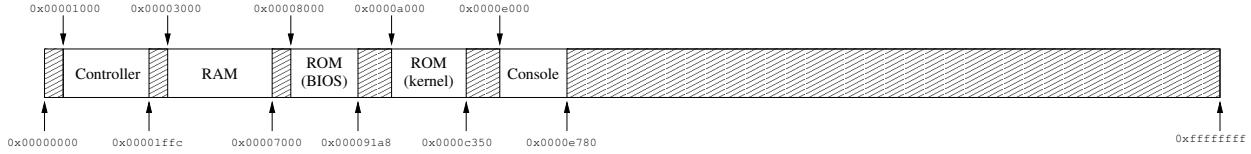

Figure 1: An example placement of devices in the physical address space.
- **Read Only Memory (ROM):** Memory units with pre-assigned contents that cannot be altered. On our simulated system, each ROM is defined by a file in the host (non-simulated) system. The size and contents of that file are taken as the size and contents of the ROM. A system may have many ROMs. By convention the first ROM is taken as the *Basic Input/Output System (BIOS)*. Consequently, the program counter (IP) in the CPU resets to the starting address of the first ROM on the assumption that it contains the first instruction for bootstrapping the system.
The device table: The bus controller provides a window into the placement of bus devices into the physical address space. Each device has a *type* (controller (1), ROM (2), RAM (3), etc.), and each device has physical *base* (the address of first valid byte to which that device responds) and *limit* (the address of first byte **after** the **last** valid byte to which the device responds). The controller provides access to a *device table* that contains this information for every device on the bus. The devices are typically laid out in the physical address space as shown in Figure 1.
The bus controller is always loaded into the physical address space with a base of 0x00001000—the address of the first byte in the physical address space. This address is also the start of an array of values, where each sequential triplet of words is, respectively, the *type*, *base*, and *limit* of a bus device. For example, the set of devices shown in Figure 1 would yield the following device table: